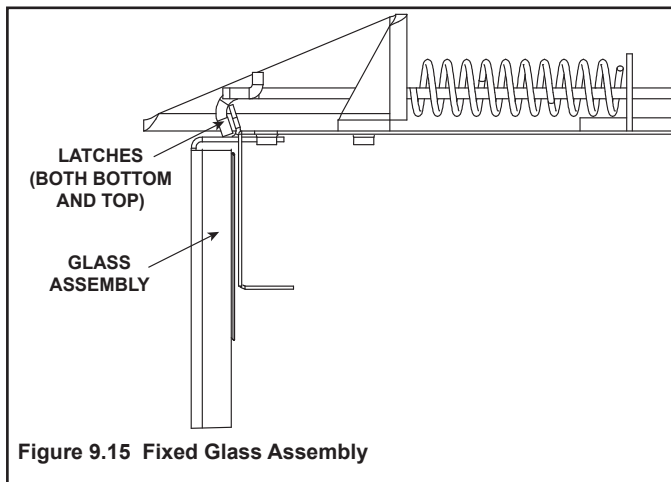

Figure 9.15 Fixed Glass Assembly
- Noting carefully how the brackets fit on the glass, release the two spring latches at the top and two at the bottom of the glass door. Carefully lift the glass up and out away from the appliance. See Figure 9.15.